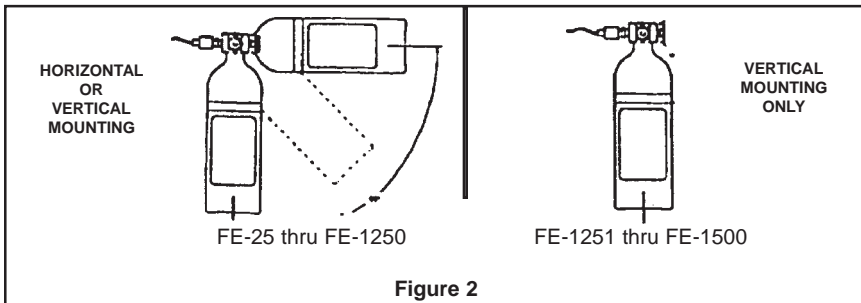

Figure 2
- Step 5** Locate bracket in desired position (Vertical-Sensor Valve/Detector Head Up, or Horizontal, **Figure 2**). Using the bracket as a template, mark and drill holes in bulkhead and install bracket insuring that all bolts are thoroughly tight.
WARNING: When installing cylinder in horizontal position, the actuator (top of cylinder) must NEVER be lower than the bottom of the cylinder or proper discharge of agent will not occur (See Figure 2 above).